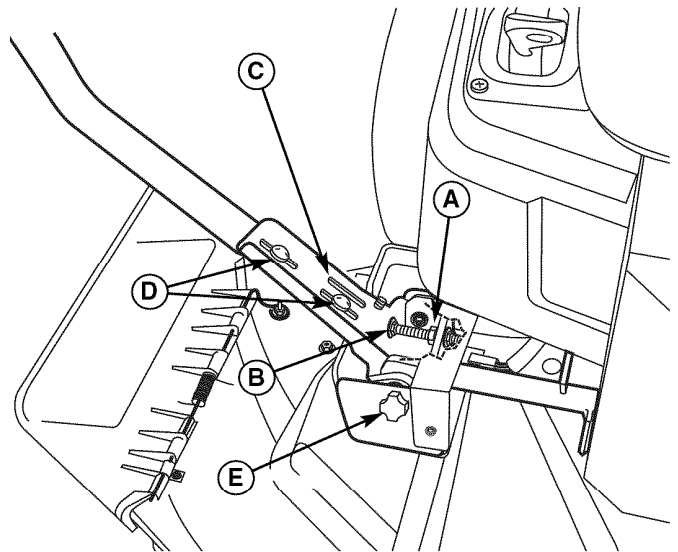

Figure 36. Control Lever Adjustment
**To Adjust Control Lever Height:** Pull the levers in across the operator's lap to their DRIVE positions. Loosen the mount bolts (D, Figure 36) and raise or lower the levers to the desired position. Tighten the mounting bolts.(D).
**To Adjust Control Lever End Gap:** The control lever end gap should be adjusted so that the levers do not contact each other when placed in DRIVE positions. Loosen the jam nut (A, Figure 36) and adjust the length of the carriage bolt (B) so that the levers do not contact each other. Repeat on the opposite side. Tighten the jam nut (A) to lock the carriage bolt in position.
**To Adjust Operator Clearance:** The space between the operator and the control levers can be increased by removing the lower mounting bolt (D, Figure 36), pivoting the lever forward, and reinstalling the capscrew through the control lever and forward slot (C). Repeat with the other ground speed lever.
If the rider veers to the right or left when the ground speed control levers are in the maximum forward position, the top speed of the right lever can be balanced by turning the adjustment knob (E, Figure 36). Loosen the jam nut and turn the knob COUNTERCLOCKWISE to increase speed or CLOCKWISE to decrease speed. Tighten the jam nut when complete.